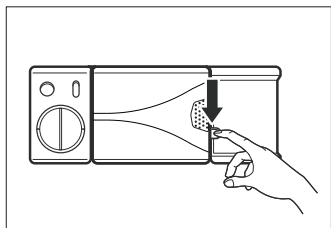

Fig. 7
1. Open the detergent dispenser cover by pushing the detergent dispenser release lever (Fig. 7).